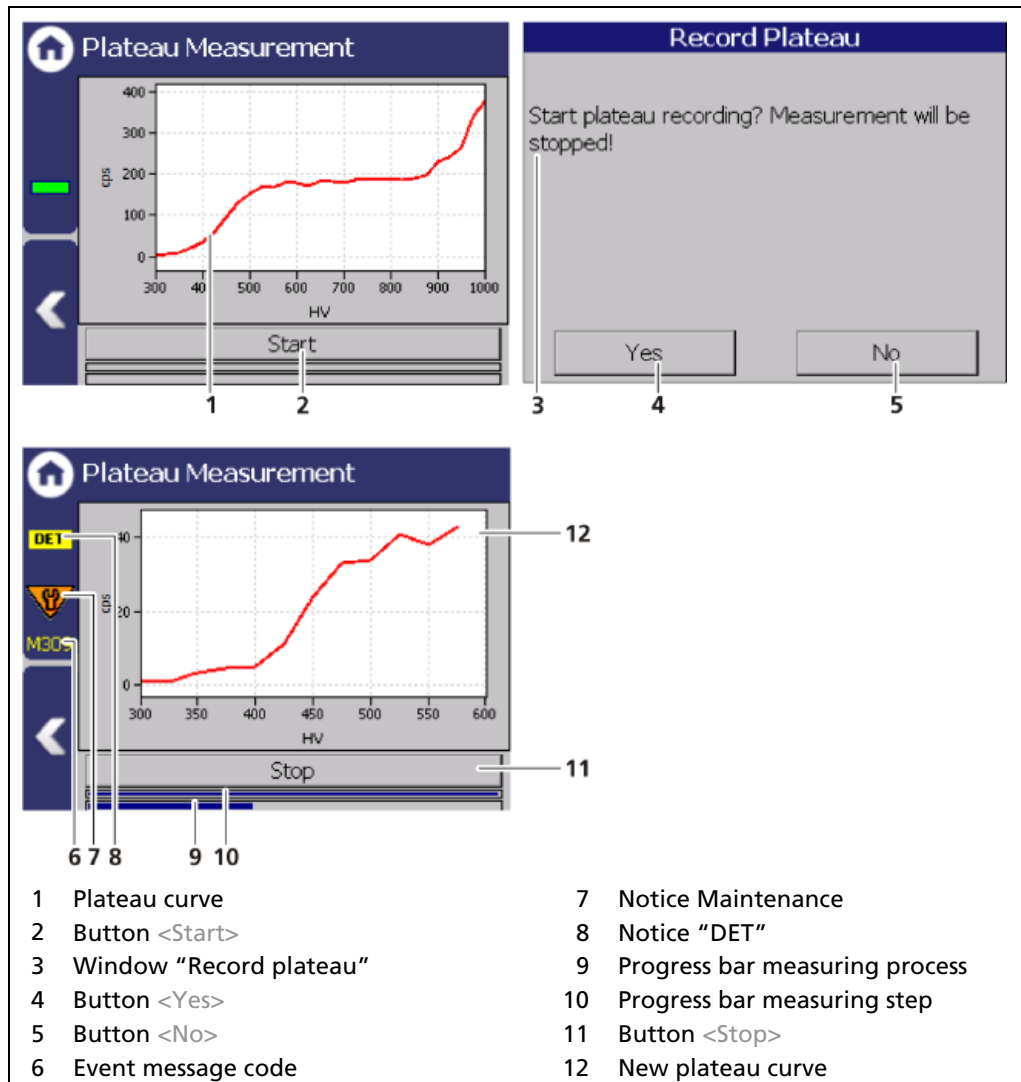

Fig. 50 Recording a plateau curve
- Click on <Start> (Fig. 50, item 2) to perform a plateau measurement.
- The confirmation message "Record plateau" (Fig. 50, item 3) opens.
- Confirm with <Yes> (Fig. 50, item 4).
- The EVU switches to mode "DET" (Fig. 50, item 8) and the current measurement is stopped.
- The information (Fig. 50, item 6 - 8) from the plateau measurement are displayed in the status information. The LED Run flashes on the EVU during the plateau measurement. The LED "Warning" LED lights up at the same time.